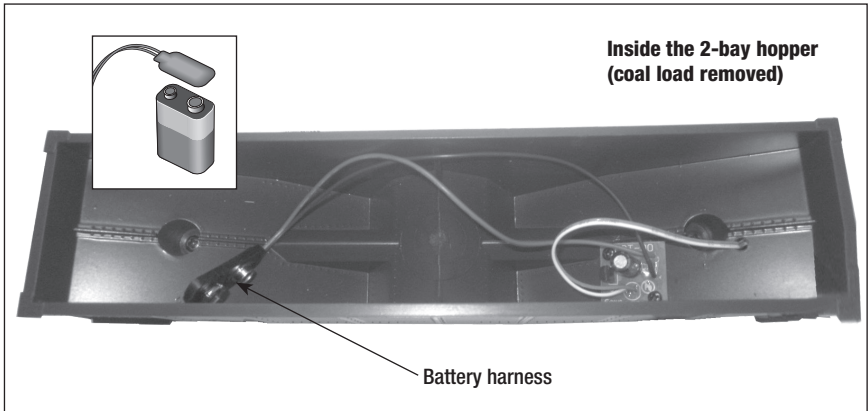

Figure 3. Battery installation
**Y**our 2-bay hopper features a lighted end of train device (ETD). The ETD is powered by a 9V alkaline battery (not included). To install the battery, simply lift the molded coal load out of the car and connect the battery to the battery harness. See Figure 3 below. Set the battery on the bottom of the car, and replace the coal load, taking care to avoid pinching any wires.